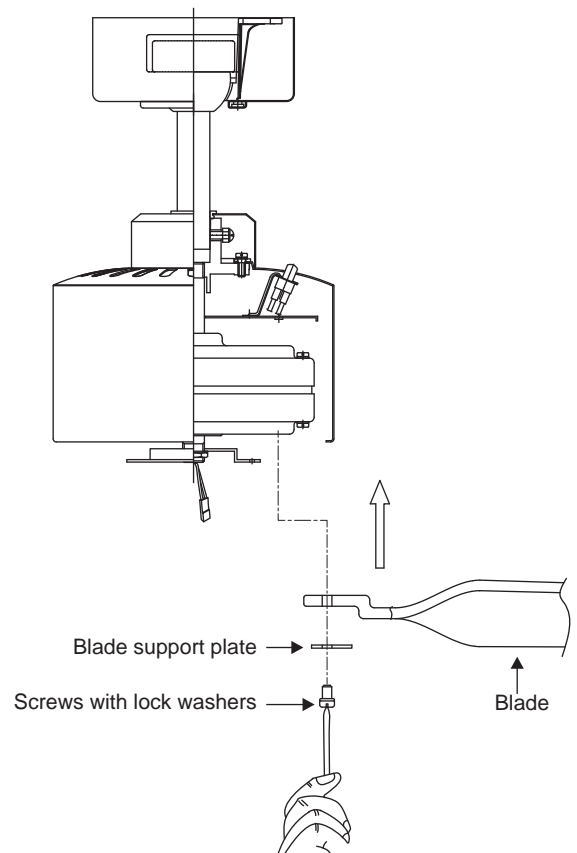

Figure 13
Step 1. Align the holes in the blade, the blade support plate, and the fan motor assembly and secure with a blade attachment screws with lock washers. (Fig. 13)